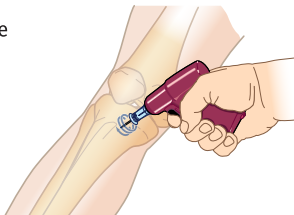

FIGURE 6
- a. Position Driver at insertion site with Needle Set at a 90-degree angle to the bone. (Figure 6) **Gently** power or press Needle Set until Needle Set tip touches bone.